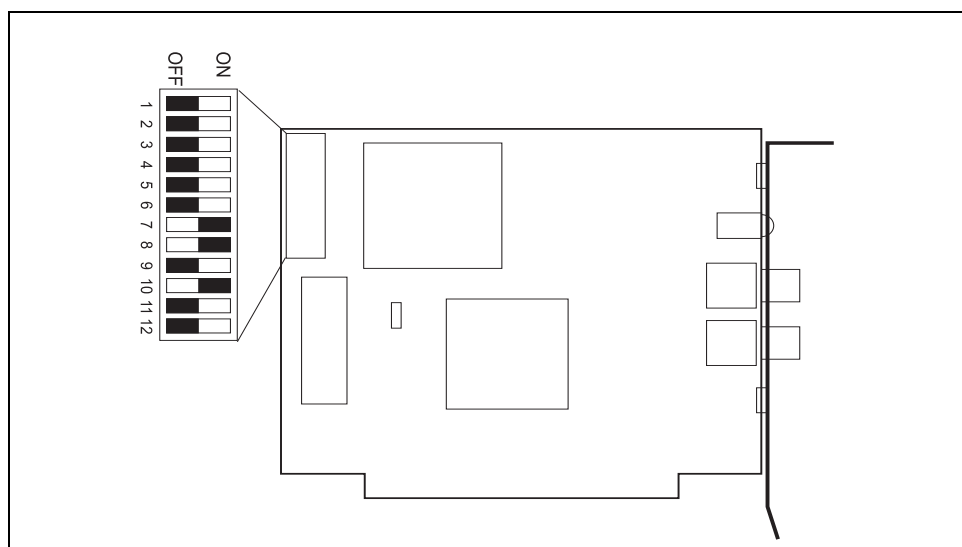

Figure 2-12 ISA ARCNET card
The ARCNET card provides network communications for two to 16 Senstar 100 CUs. For more than two CUs, a hub is required. *Figure 2-12* illustrates the ARCNET card.
1. Set the DIP switch address as illustrated in *Figure 2-12*.